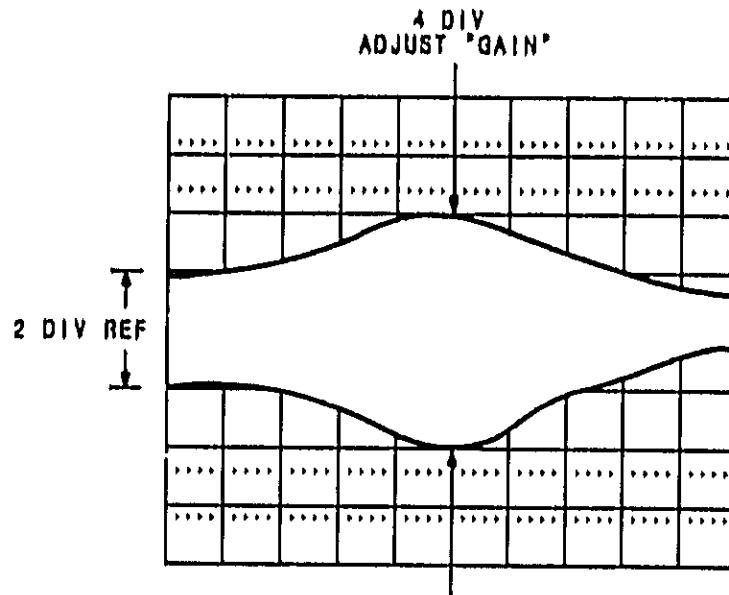

Figure 5-26a. ALC Gain Adjusted Correctly (Worst Case)
7. While monitoring CHANNEL A, manually sweep the entire plug-in frequency range and adjust the ALC "GAIN" (A4R15) for 4 divisions of peaking at the plug-in frequency where the highest gain peaking occurs. (See Figure 5-26a)